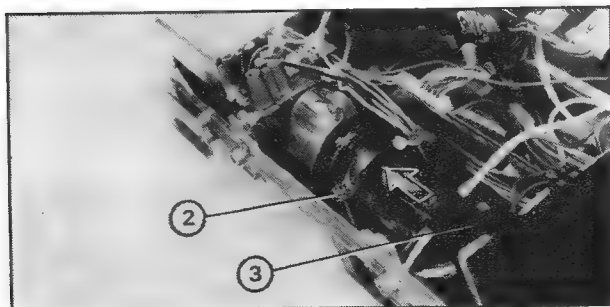

Fig 3.14 Removal of Vidicon
- (3) Loosen the screw (2) of the band securing the vidicon socket assembly, shown in Figure 3.14, and using a pushing and turning motion, gently ease the vidicon forward. (DO NOT push the vidicon socket.) When moved forward sufficiently, remove the vidicon socket (3)
- (4) Remove the vidicon through the front of the deflection yoke.